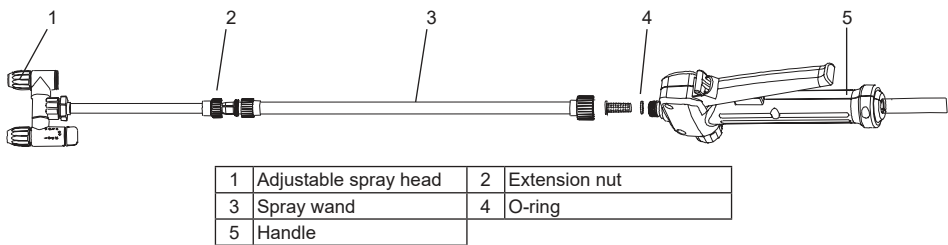

Figure 1
- 2. Make sure the O-ring is in place, then thread the spray wand onto the handle and tighten it securely. Refer to Figure 1.